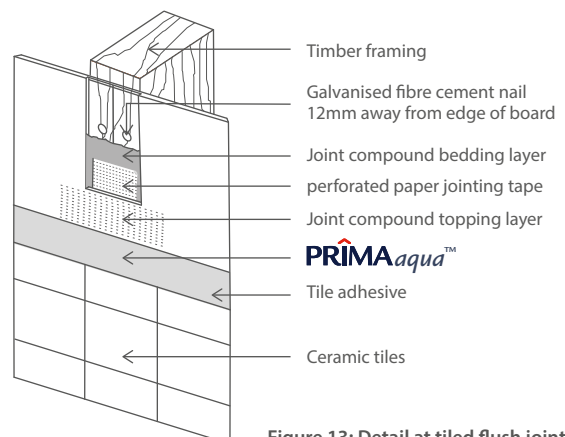

Figure 13: Detail at tiled flush joint
2. Flush joints to be tiled should NOT be finished with a finishing coat of joint compound. Refer Figure 13.